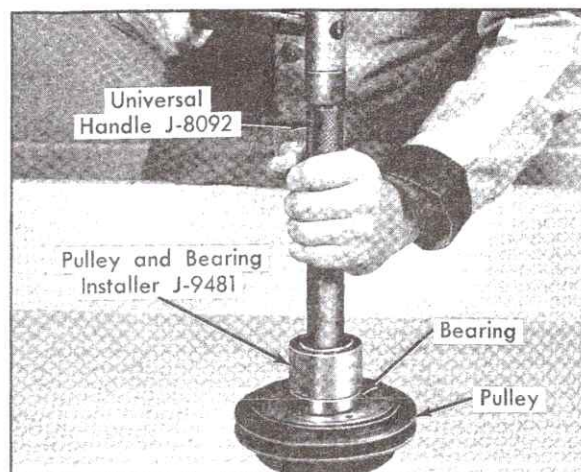

Fig. 1-39 Installing Bearing In Pulley
5. Install new bearing in pulley using Pulley and Bearing Installer, J-9481, with Universal Handle, J-8092, Fig. 1-39. The tool will apply the force to the outer race of the bearing.